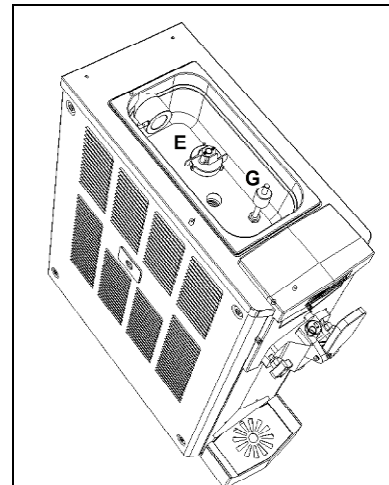

Fig. 24
- Remove all components inside the top tank as shown in fig. 24: